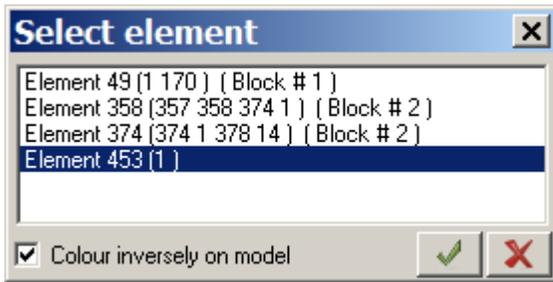

Figure 22.20 Select element dialog box
- ⇒ In the **Select element** dialog box (see Fig.22.20), select the row that corresponds to 1-node element and click **OK** .